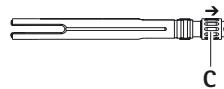

Fig. 1
- Turn fixing screw C in the direction of the arrow until the thread in the direction of the working end becomes visible, see Fig. 1.